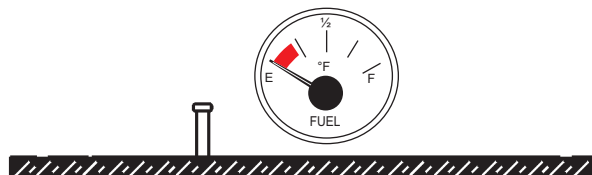

Figure 41. Full Fuel Tank
3. **NEVER overfill the fuel tank** — It is important to read the fuel gauge when filling the trailer fuel tank. **DO NOT** wait for fuel to rise in the filler neck (Figure 41).